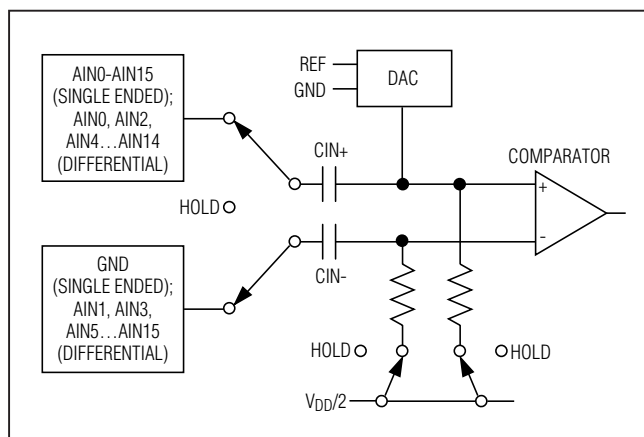

Figure 3. Equivalent Input Circuit
**Note 6:** See Figure 3 (Input Equivalent Circuit) and the Typical Operating Curve in the *Sampling Error vs. Source Impedance* section.
The MAX1227/MAX1229/MAX1231 use a fully differential ADC for all conversions. The analog inputs can be configured for either differential or single-ended conversions by writing to the setup register (see Table 3). Single-ended conversions are internally referenced to GND (see Figure 3).
The equivalent circuit of Figure 3 shows the MAX1227/MAX1229/MAX1231s' input architecture. In track mode, a positive input capacitor is connected to AIN0–AIN15 in single-ended mode (and AIN0, AIN2, AIN4...AIN14 in differential mode). A negative input capacitor is connected to GND in single-ended mode (or AIN1, AIN3, AIN5...AIN15 in differential mode). For external T/H timing, use clock mode 01. After the T/H enters hold mode, the difference between the sampled positive and negative input voltages is converted. The time required for the T/H to acquire an input signal is determined by how quickly its input capacitance is charged. If the input signal's source impedance is high, the required acquisition time lengthens. The acquisition